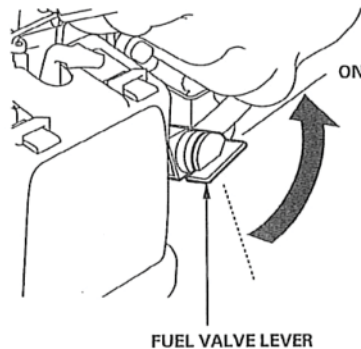

Figure 7
2. Turn the fuel valve to the ON position (Fig. 7)